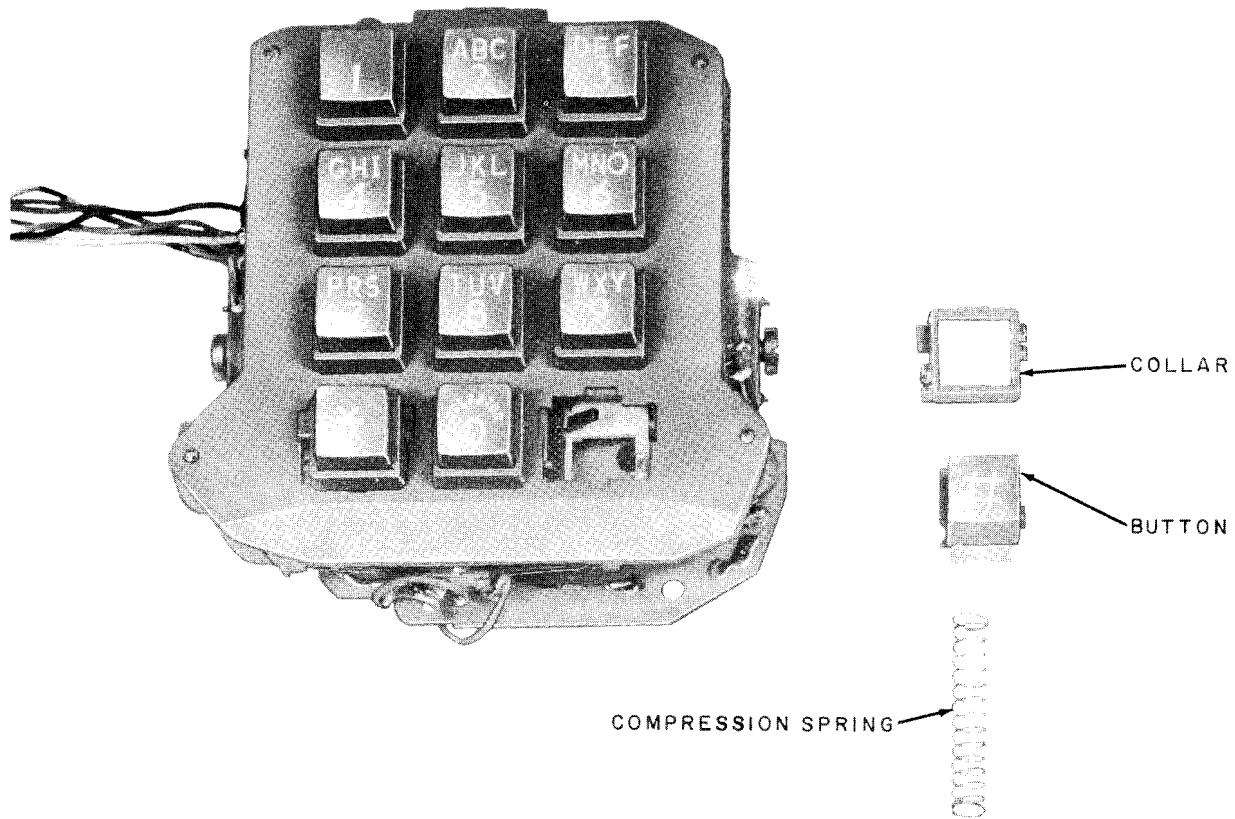

Fig. 7—25W3 Dial with Special Service Button Disassembled
- (2) Assemble a button and collar by slipping the collar over the gray end of the button so that the tangs of the collar point toward the white end of the button. The collar and button must be assembled in the relative positions shown in Fig. 7. The tab on the button should be on the right side when looking at the face of the button.
- (3) Insert spring into hole in back of button.
- (4) Hold the button, collar, and spring assembly between the thumb and forefinger and insert the assembly, spring first, straight into the dial cover plate cavity making sure the two tabs extending from the collar fit into the two recesses at the top and left sides of the cavity. The assembly must be inserted far enough so that the tangs on the collar snap and lock around the projections in the sides of the dial cover plate cavities to hold the button assembly firmly.
- (5) The * button should be installed on the left side of the dial and the # button on the right side of the dial (Fig. 7).